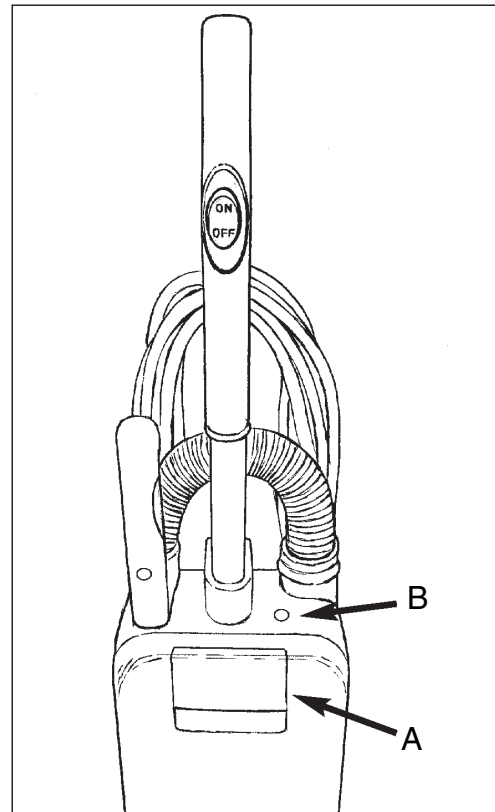

Figure 12
**Canister Door** (See figure 12, item A)
**The Vacuum Indicator Light** (See figure 12, item B)